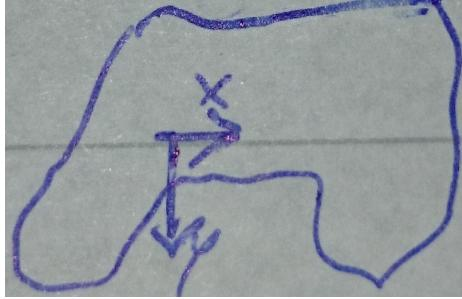

Figure 70: Sixaxis coordinate system
**Voith Schneider Propellers:** The left and right joysticks, respectively, give the VSP deflections,  $u_{VSP1}$  and  $u_{VSP2}$ , and angles,  $\alpha_{VSP1}$  and  $\alpha_{VSP2}$ , depicted in Figure 67b. The joystick coordinates PosX and PosY axes point right and down, as seen in Figure 70. The deflection is